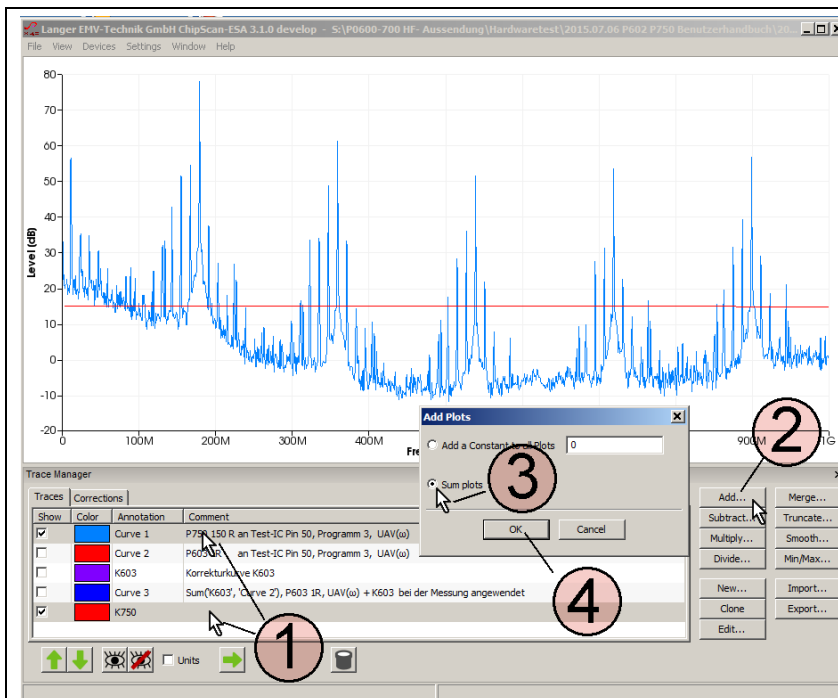

Figure 32: Correction after the measurement; performing the addition $U_{IC} = U_{AV} + K750$
Mark the "Curve 1" (U_{AV}) curve and the "K750" curve in the "Traces" list **Figure 32** in the "Trace Manager" with the mouse cursor ①. Open the mathematical operation "Add..." (addition) and activate "Sum up all Plots" (**Figure 32** mouse cursor ③). Click OK ④ to perform the addition $U_{AV} + K750$.